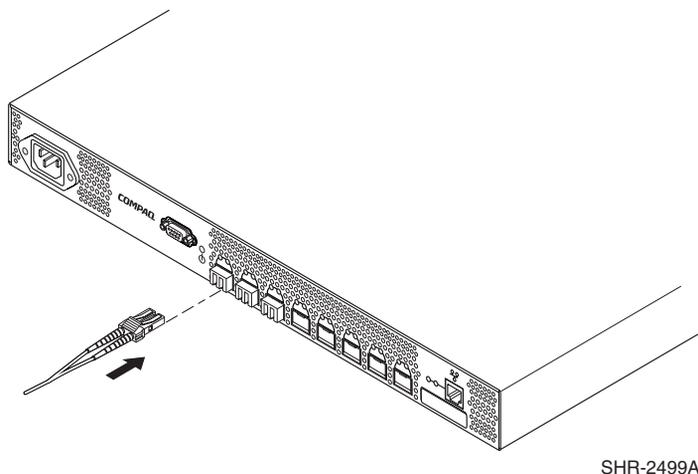

Figure 2–8: Installing an SFP
3. Insert the SFP into the port until it is firmly seated and the latching mechanism clicks, see Figure 2–8.